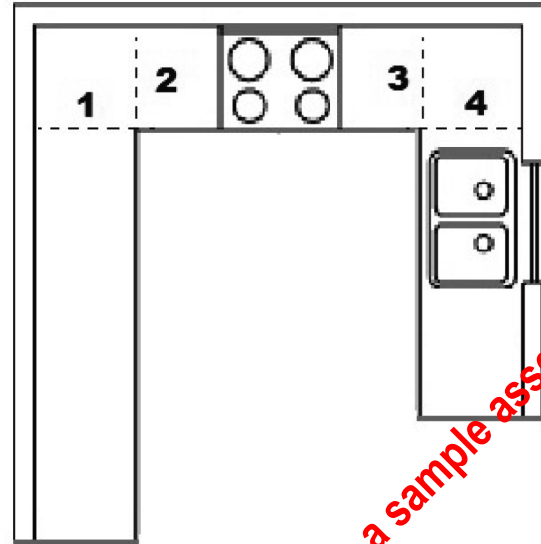

Figure 16
- 48 Where should the joints for the worktop, shown in Figure 16, be positioned?